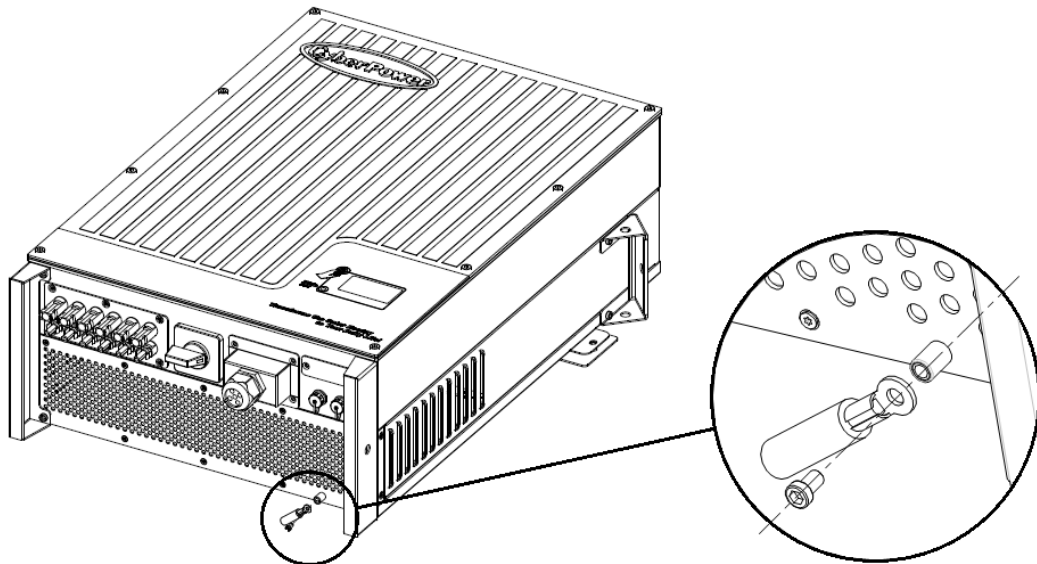

Fig. 5.6
- Connection of a second protective conductor. Please reference in Fig5.6.